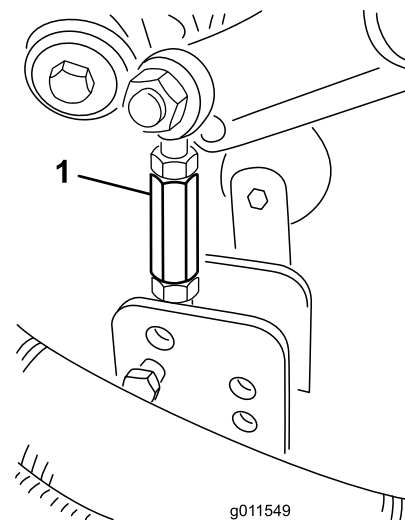
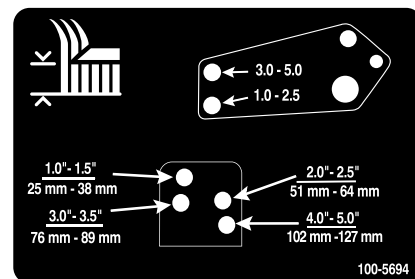

Figure 26
Figure 27
- Remove the hairpin cotters and clevis pins securing the damper links to the cutting unit brackets (Figure 26). Align the damper link holes with the selected height-of-cut bracket holes in the cutting unit frame (Figure 27), insert the clevis pins, and install the hairpin cotters.